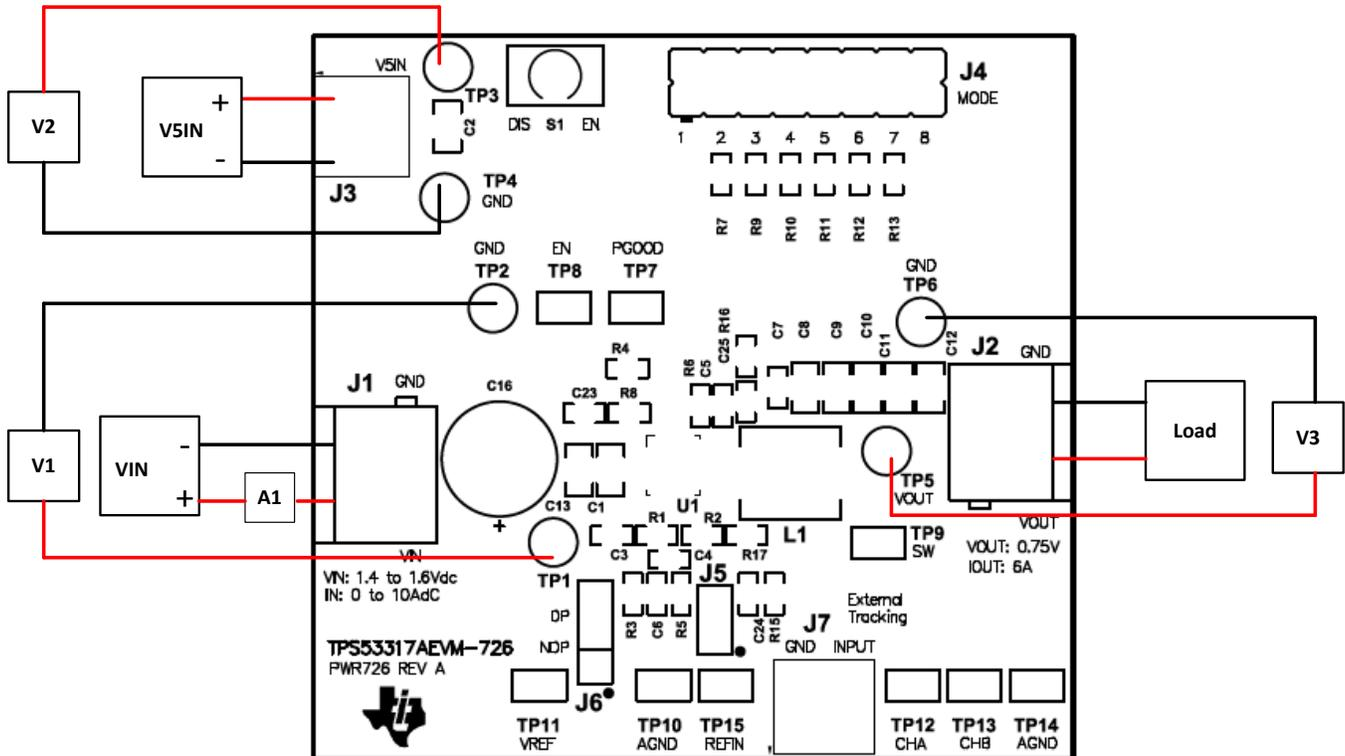

Figure 3. TPS53317AEVM-726 Recommended Test Set Up
- **VIN:** The input voltage source VIN should be a 0-V to 6-V variable DC source capable of supplying 8 ADC. Connect VIN to J1 as shown in Figure 3.
- **V5IN:** The V5IN voltage source should be a 5-V DC source capable of supplying 1 ADC. Connect V5IN to J3 as shown in Figure 3.
Figure 3 is the recommended test set up to evaluate the TPS53317AEVM-726. Working at an ESD workstation, make sure that any wrist straps, bootstraps or mats are connected referencing the user to earth ground before power is applied to the EVM.
1. Prior to connecting the DC input source VIN, it is advisable to limit the source current from VIN to 8 A maximum. Make sure VIN is initially set to 0 V and connected to J1 as shown in Figure 3.
4. Prior to connecting the 5-V DC source V5IN, it is advisable to limit the source current from V5IN to 1 A maximum. Make sure V5IN is initially set to 0 V and connected to J3 as shown in Figure 3.
**Other Connections:** Place a Fan as shown in Figure 3 and turn on, making sure air is flowing across the EVM.
1. Set up EVM as described in Figure 3.